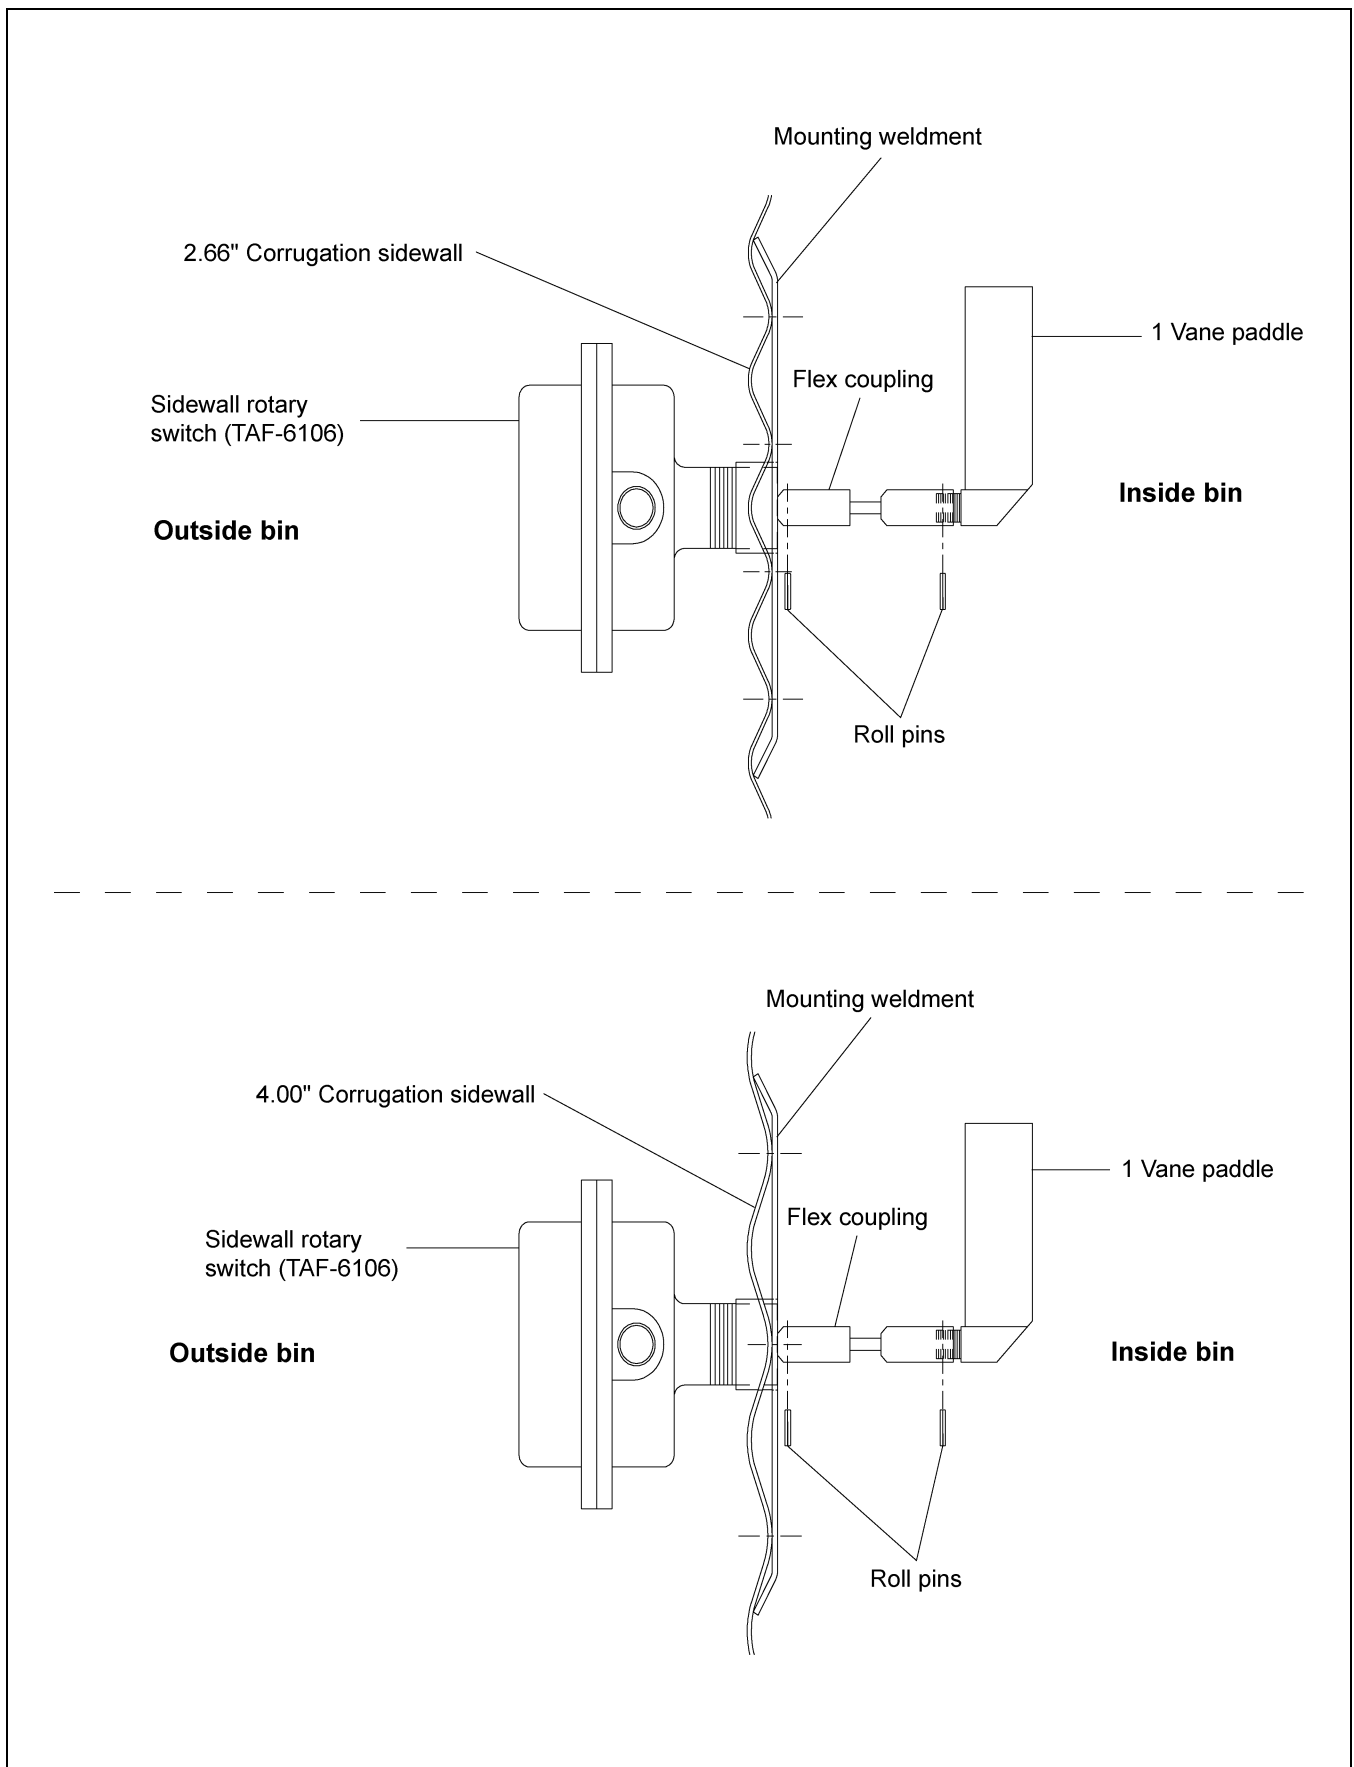

Figure 3Q
4. Use the mounting plate as a pattern and drill four (4) 3/8" holes through the sidewall at the switch location so the plate can be bolted to the bin.
9. Attach the 1 vane paddle to the flex coupling as shown in Figure 3Q on Page 26.